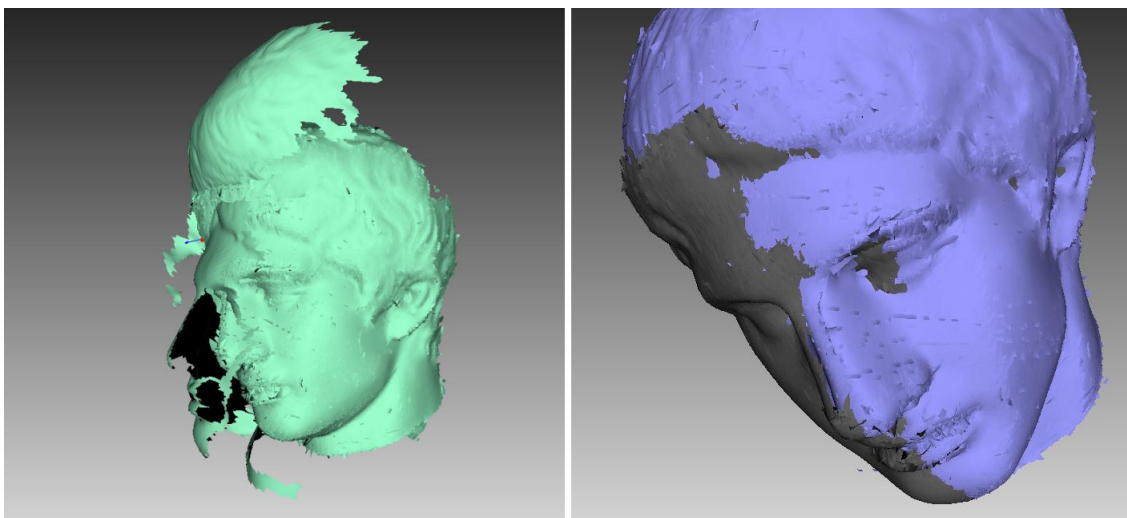

Figure 149: Global-registration errors: wrong settings on left and gap between scans on right.
- After the global-registration algorithm finishes, the frames are in disarray (see Figure 149, left) or the frame positions are unchanged. This error occurs because the application is configured for a different scanner type than the one that captured the data. Change the device type in the application settings (see Algorithm Settings).
- The algorithm has completed successfully, but a gap exists between two or more scans (see Figure 149, right). Select just these scans in the *Workspace* panel and run the global-registration algorithm. If the scans have drawn closer to each other but have failed to align after the algorithm finishes, increase the number of iterations and rerun the algorithm. Repeat this process until you achieve full alignment, then run global registration once again for all data. If you are unable to align several problematic scans, try aligning just two of them, then gradually increase the number of scans until all of them are aligned.